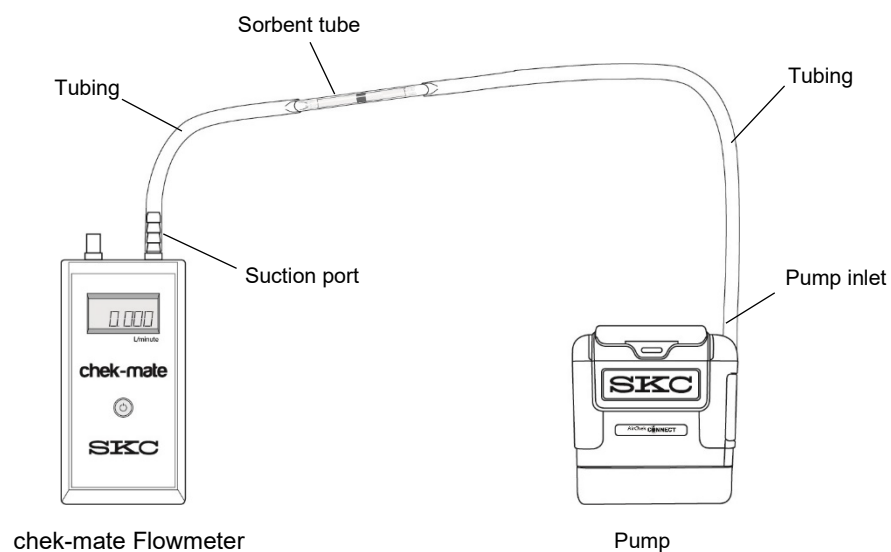

Figure 6. Flow Rate Verification Train (100 to 1000 ml/min) for Single Tube — Constant Pressure Mode
Before setting and verifying pump flow in Constant Pressure mode, connect the sorbent tube or other sample medium to the pump inlet. See Figure 6. **Note:** The pump will fault if there is no sample medium or if the load is too low.
2. Set up the flow rate verification train as shown in Figures 6 and 7. The All-in-One and CPC are not needed in Constant Pressure mode. Using tubing, connect the flowmeter to the single sorbent tube or the first of multiple sorbent tubes.